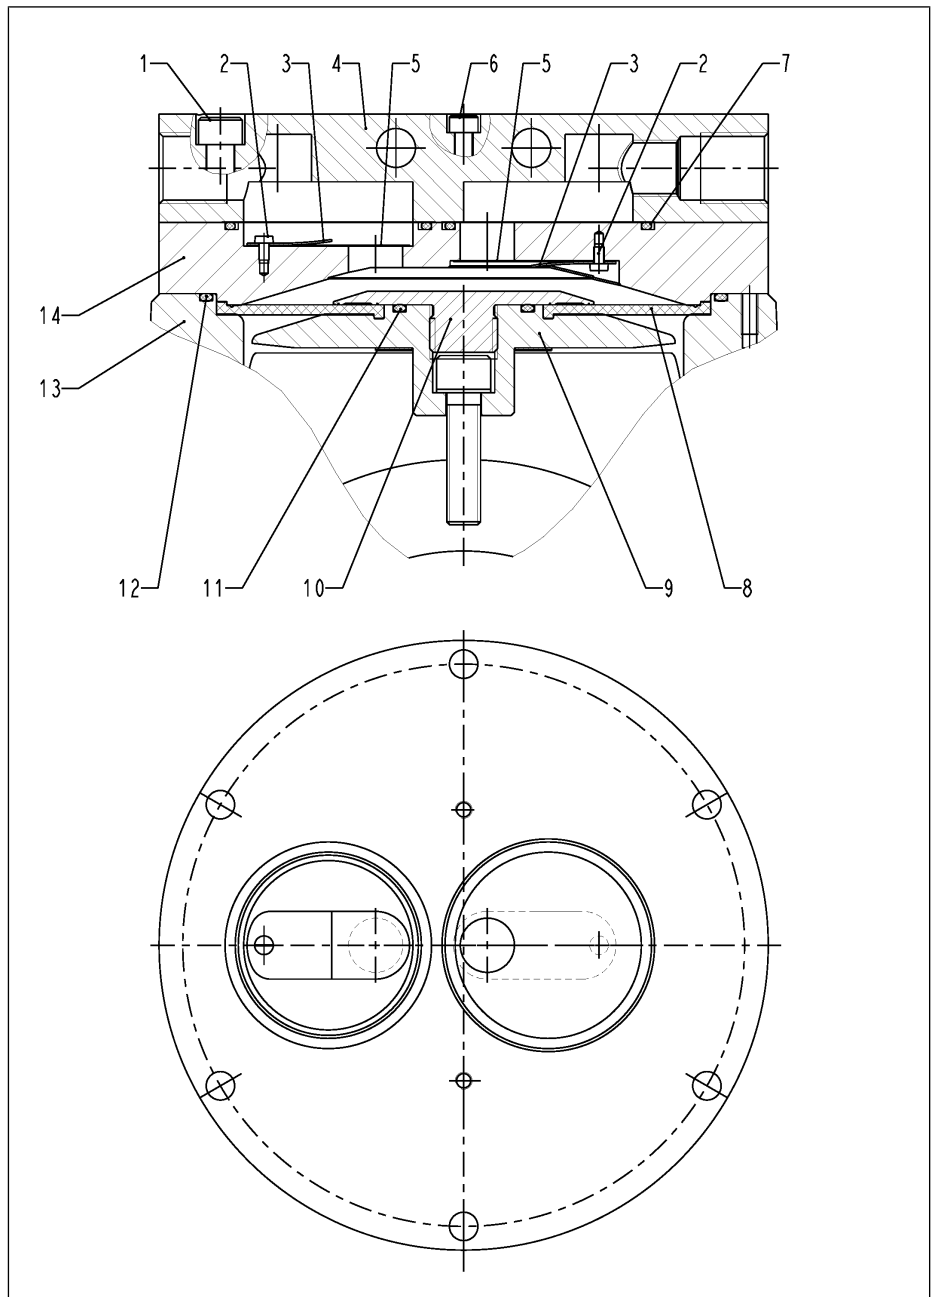

Fig. 10 Individual parts of the pump head
** According to Fig. 10
i The following item numbers refer to Fig. 10 unless specified otherwise.